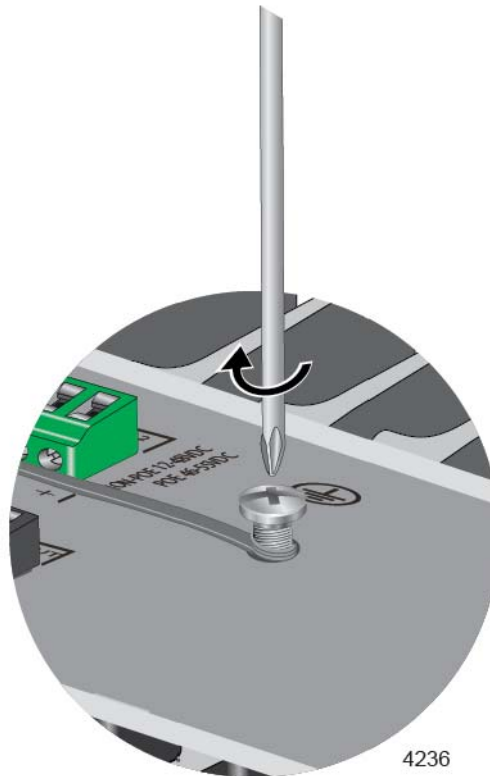

Figure 33. Securing the Grounding Wire to the Switch
- 4. Tighten the screw to secure the grounding wire to the switch. Refer to Figure 33 on page 82.